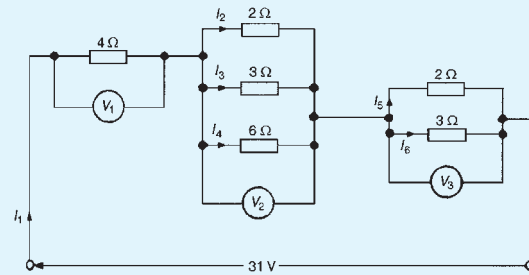

Figure 5.33
9. Determine the currents and voltages indicated in the circuit shown in Fig. 5.33. [$I_1 = 5$ A, $I_2 = 2.5$ A, $I_3 = 1\frac{2}{3}$ A, $I_4 = \frac{5}{6}$ A, $I_5 = 3$ A, $I_6 = 2$ A, $V_1 = 20$ V, $V_2 = 5$ V, $V_3 = 6$ V]